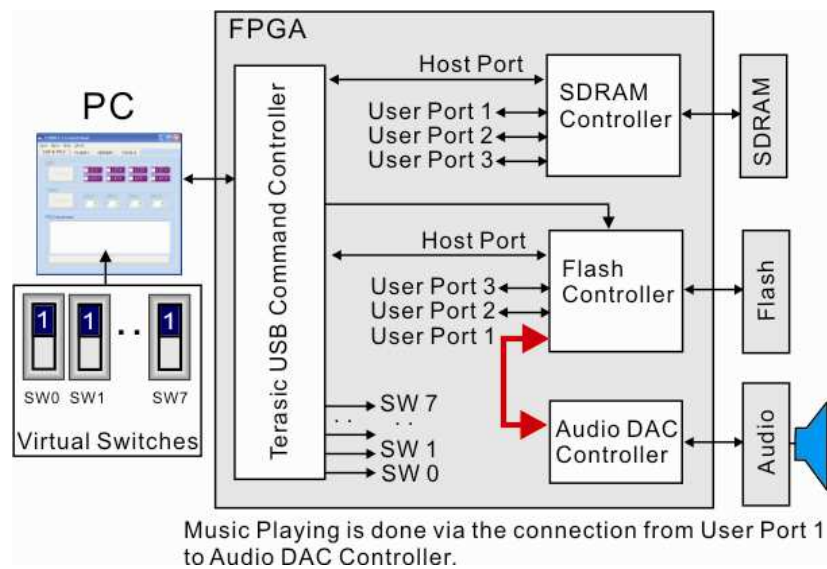
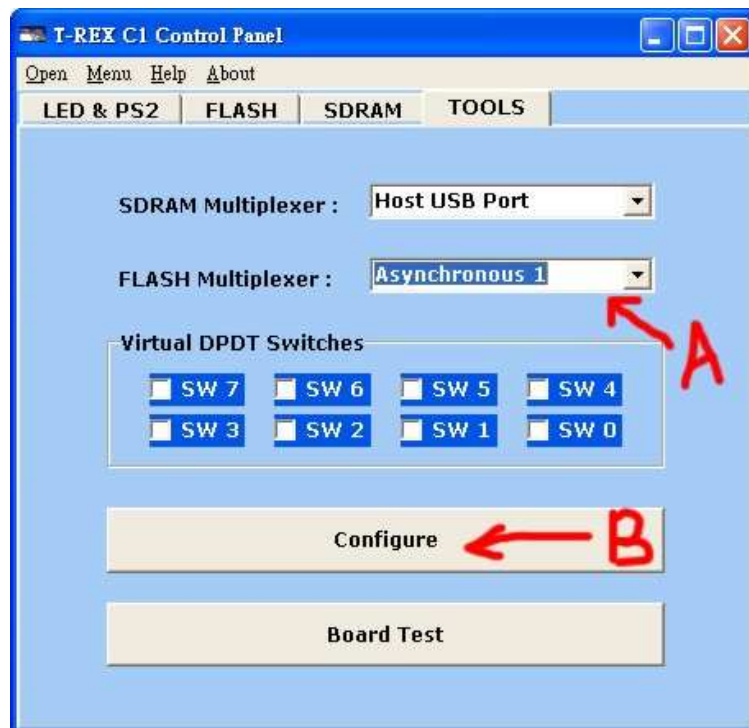

Figure 6.11. Block Diagram of The Multi-Port SDRAM/Flash integration
Figure 6.13 TREX Control Panel – multi-port SDRAM/Flash Usage
- ✓ Figure 6.11 shows the concept of the multiport SDRAM/Flash controller.
- ✓ As illustrated in Figure 6.13, select the Asynchronous 1 for Flash Multiplexer and then click on the Configure button to activate the port. Note that you need to click the Configure button to enable the connection from the Flash Memory to the Asynchronous Port 1 of the Flash Controller indicated in Figure 6.11.
- ✓ Please refer to Figure 6.11. You should see the Asynchronous Port 1 is connected to the Audio DAC part. Once you selected Asynchronous Port 1 and click the Configure button, the AUDIO_DAC will talk to the Flash Memory directly. In this example, the AUDIO_DAC Verilog Module will read the content of the Flash memory and send it to the external audio chip.